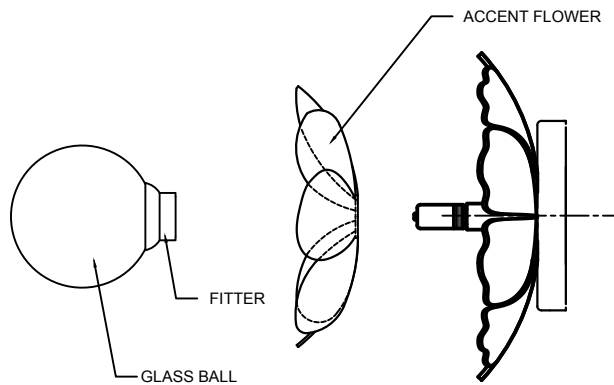

FIGURE-03
- Install the glass ball diffuser and accent flower. Insert the accent flower to the flower on the frame then secure it with the glass ball with fitter. (See Figure-03).